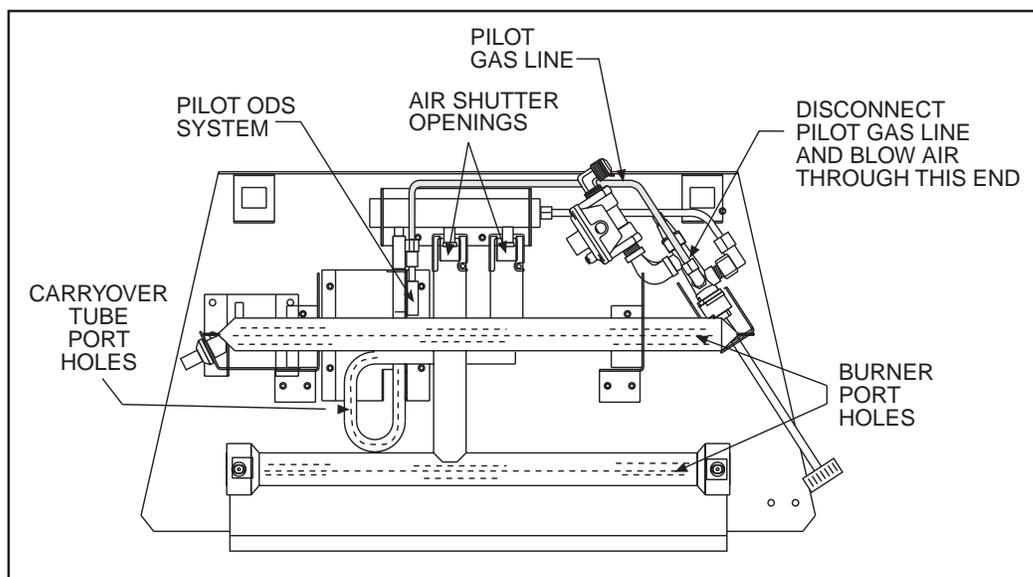

Figure 30
5. Re-light the pilot and inspect it to be sure it is burning as shown in the instructions. If not, extinguish the pilot and **turn off the gas supply to your gas log set**. Using an adjustable or a 1/4" wrench, disconnect the pilot gas line from the valve (See Figure 30).